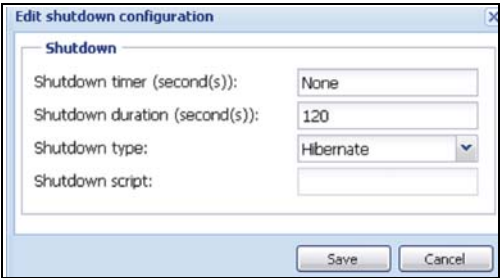

Figure 177. Edit Shutdown Configuration Dialog Box
- The IPM default configuration is available from **Settings > Shutdown > Edit Shutdown Configuration** (see Figure 177).